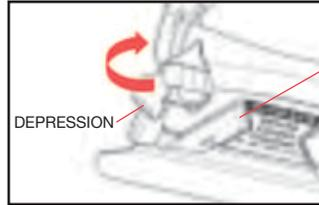

FIG. 4
**REMOVING:** It is best to change blades one at a time (see figure 4). Loosen one of the knobs, then lift and turn the blade holder out of the way. Next, push the blade back towards the handle as far as possible, then turn the tool